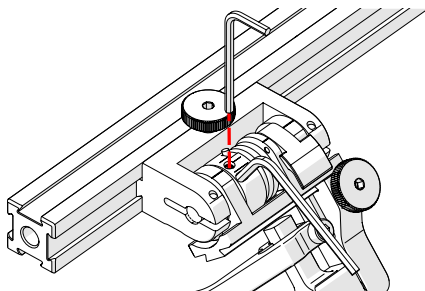

Fig. 75 - Insert hex wrenches
4. Place the 2 mm hex wrench into the force adjustment screw (Fig. 75).